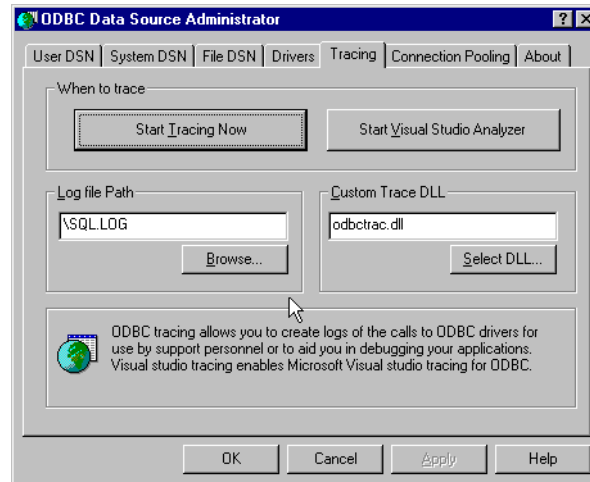

Figure 416. Start ODBC tracing
2. Select the **Tracing** tab, and click **Start Tracing Now** (Figure 416).